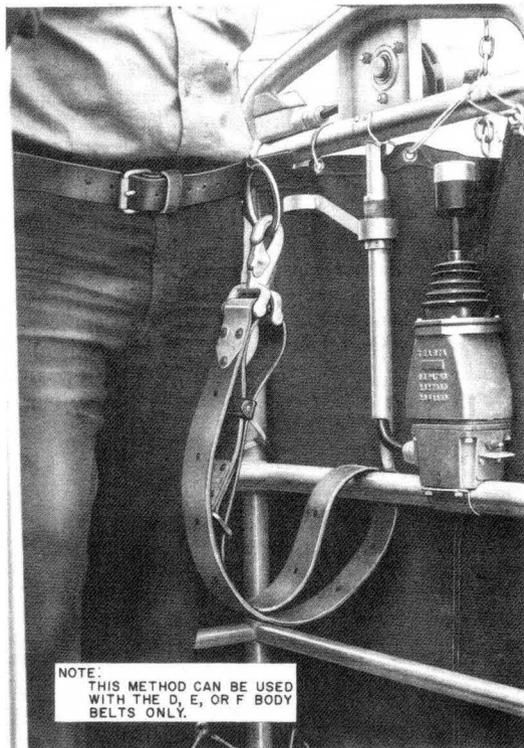

Fig. 9—Method of Using D, E, or F Body Belt With Safety Strap in TELSTA Aerial Lift
5.07 An employee working from the basket of an aerial lift shall be secured in the basket. When working from a Servi-Lift or Skyworker aerial lift, the employee shall be secured by attaching the safety strap to the eye (Fig. 8) provided in the basket. When working from a TELSTA aerial lift, use the method shown in Fig. 9.